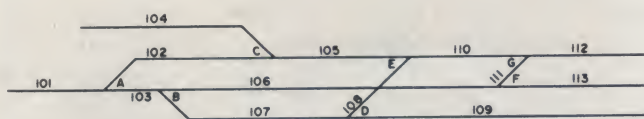

Fig. 6. Assignment of block and switch identification.
The track layout will be assigned numbers like those in Fig. 6. These numbers will then become the offset into a table such as that shown in Fig. 7. The table is used as a definition of the layout and a decision
3. Track switch direction is potentially the easiest data to acquire because each switch should be equipped with some type of throw mechanism, anyway. A microswitch or other contact should be added to provide the direction information. In Figs. 6 and 7 all switch directions are defined from the single track towards the double tracks. Similar definitions will aid the system development by making it more understandable.